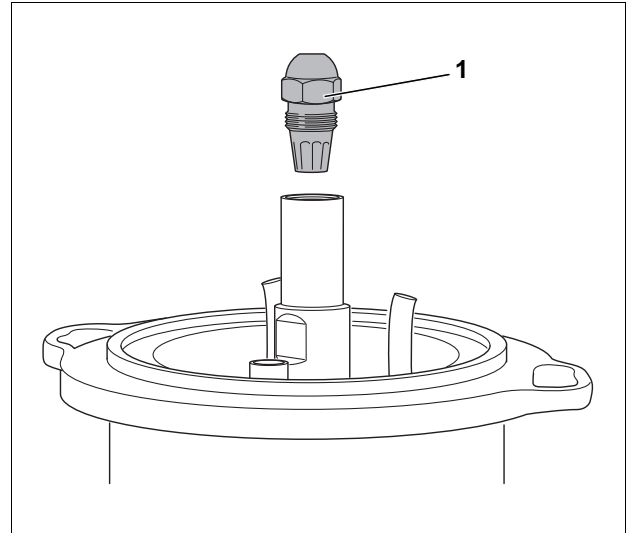

Fig. 24 Removing nozzle
- Loosen and remove the nozzle (Fig. 24, **Item 1**) using two wrenches, sizes 16 mm and 19 mm, and remove.
- Remove the nozzle (Fig. 24, page 27).